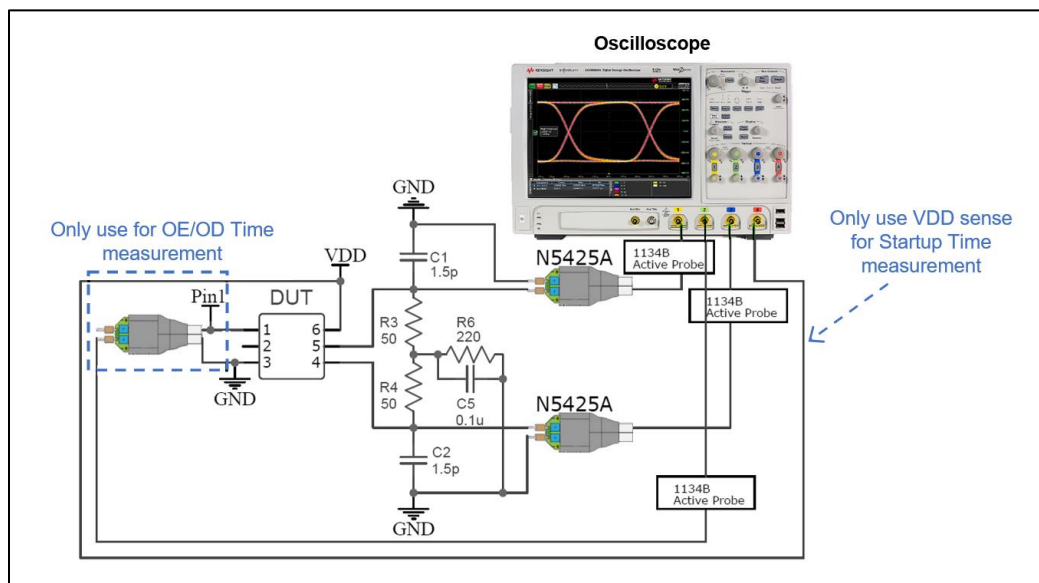

Figure 10. Test setup to measure FlexSwing Waveform Characteristics, Current Consumption^[18], Output Enable/Disable Time, and Startup Time
15. See Figure 10 for the test setup to measure LVPECL Current Consumption with Termination 1 or without Termination.